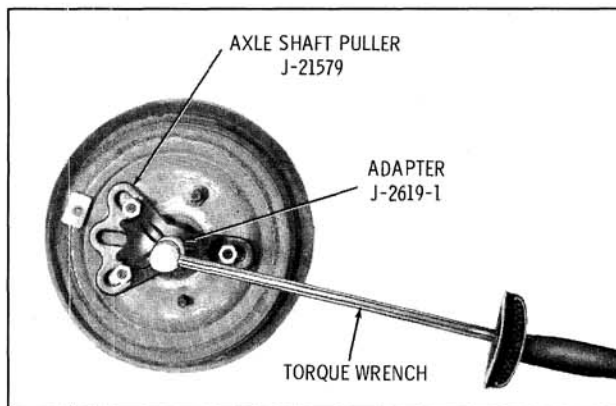

Fig. 10-53 Checking Anti-Spin
3. Remove hub cap or wheel disc and apply a torque wrench as shown in Fig. 10-53.